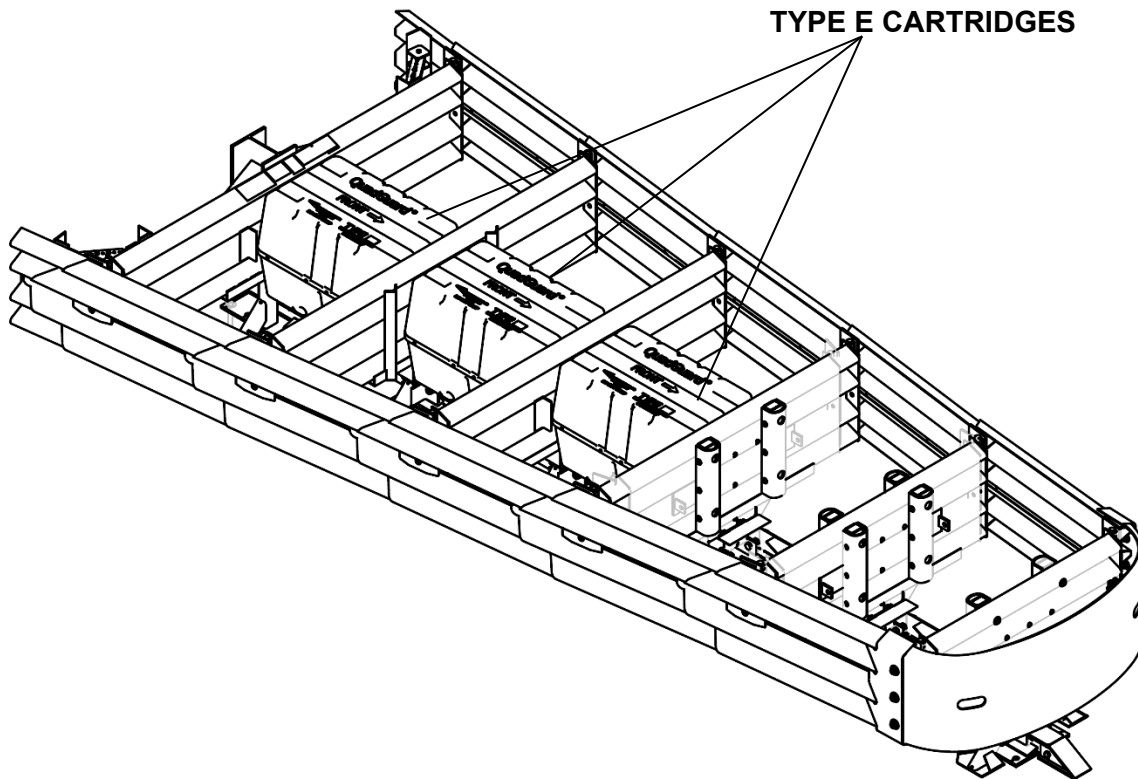

Figure 49
- 6) Attach 10 mm [3/8"] grade 40 chain to pullout Brackets on first Diaphragm (Figure 49). Attach both ends of chain to a heavy vehicle (such as a 1 ton pickup).